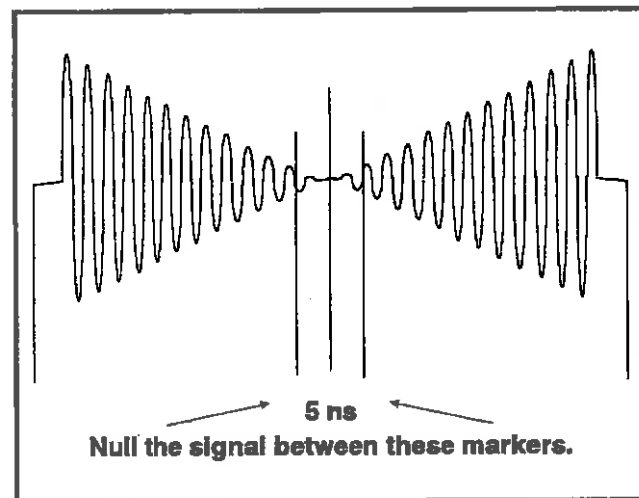

Fig. 5-20. Example of a properly adjusted bowtie signal.
- c. Adjust C4 on the Component board to center and null the bowtie as shown in Fig. 5-20.
25. Channel 1 (Y) to Channel 3 (R-Y)
- c. Adjust C3 on the Component board to center and null the bowtie as shown in Fig. 5-20.